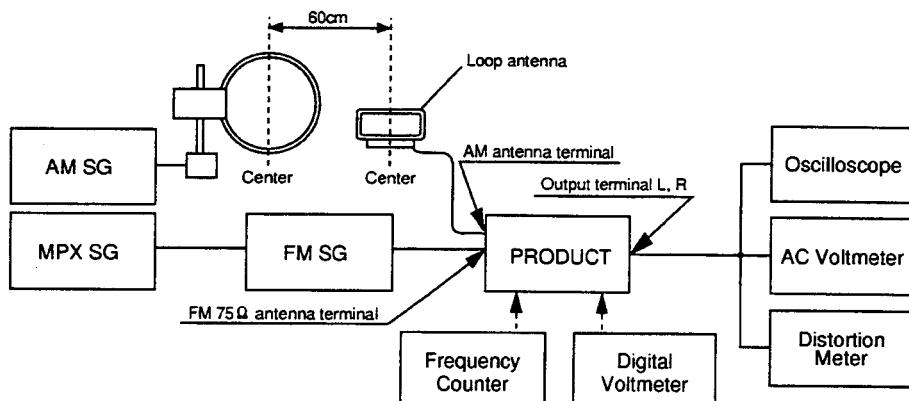

Fig. 7-1-1 AM and FM adjustment wiring diagram
1. Wiring ..... Connect the wires as shown in Fig. 7-1-1 (FM ANT. terminal:  $75\Omega$ ).